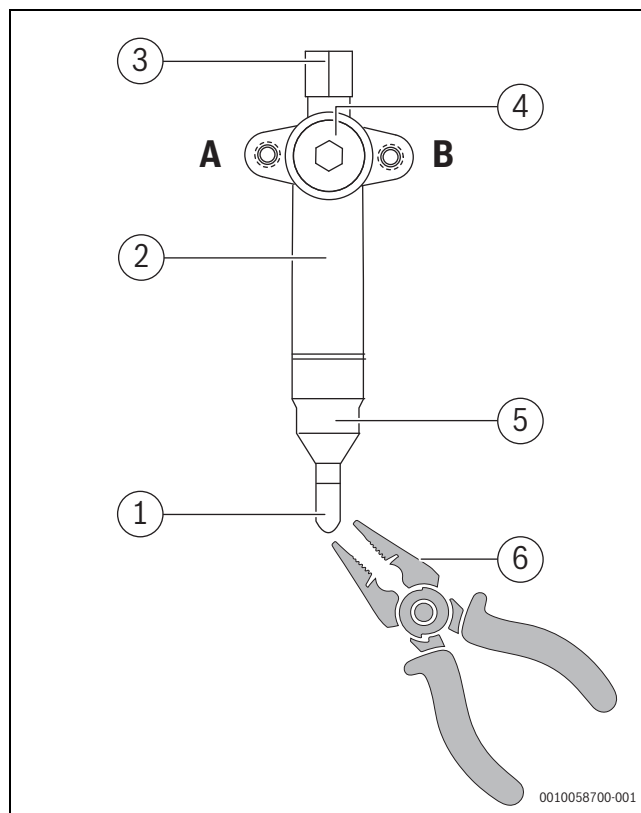

Fig. 22
- ▶ Remove the large sealing tube (→ Fig. 22).